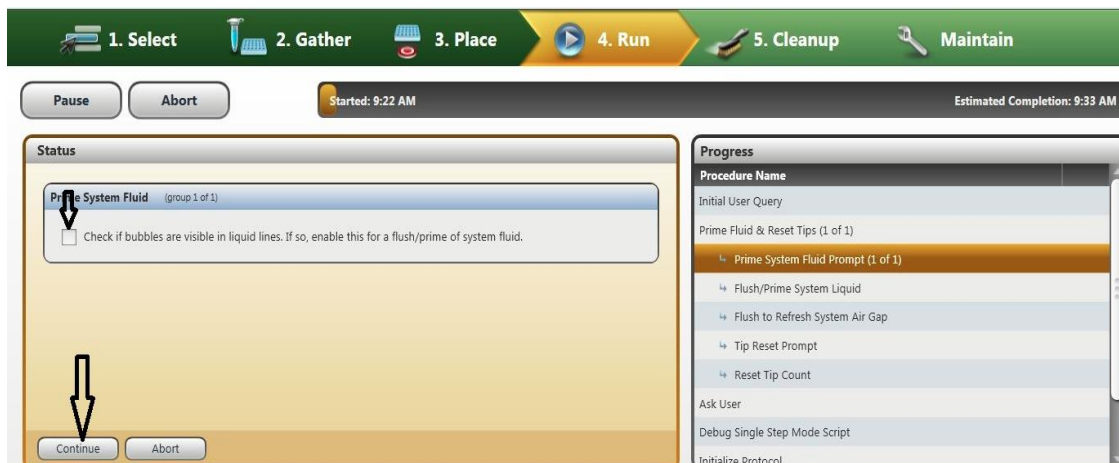

Figure 18: Capillary line bubble elimination step
- 4.11. The next window will appear as illustrated in Figure 18. If the user is the first person to use the instrument in the day, it is necessary to flush the lines with water and also to ensure that there are no bubbles present in the capillary lines. Click the "Check if bubbles are visible in liquid lines. If so, enable this for a flush/prime of system fluid (a) and ensure the 'Prime System Fluid Prompt' is highlighted. Note the arrows in Figure 18 as indicators of the correct steps to follow. Click 'Continue' icon once ready (b) to proceed to the next step.